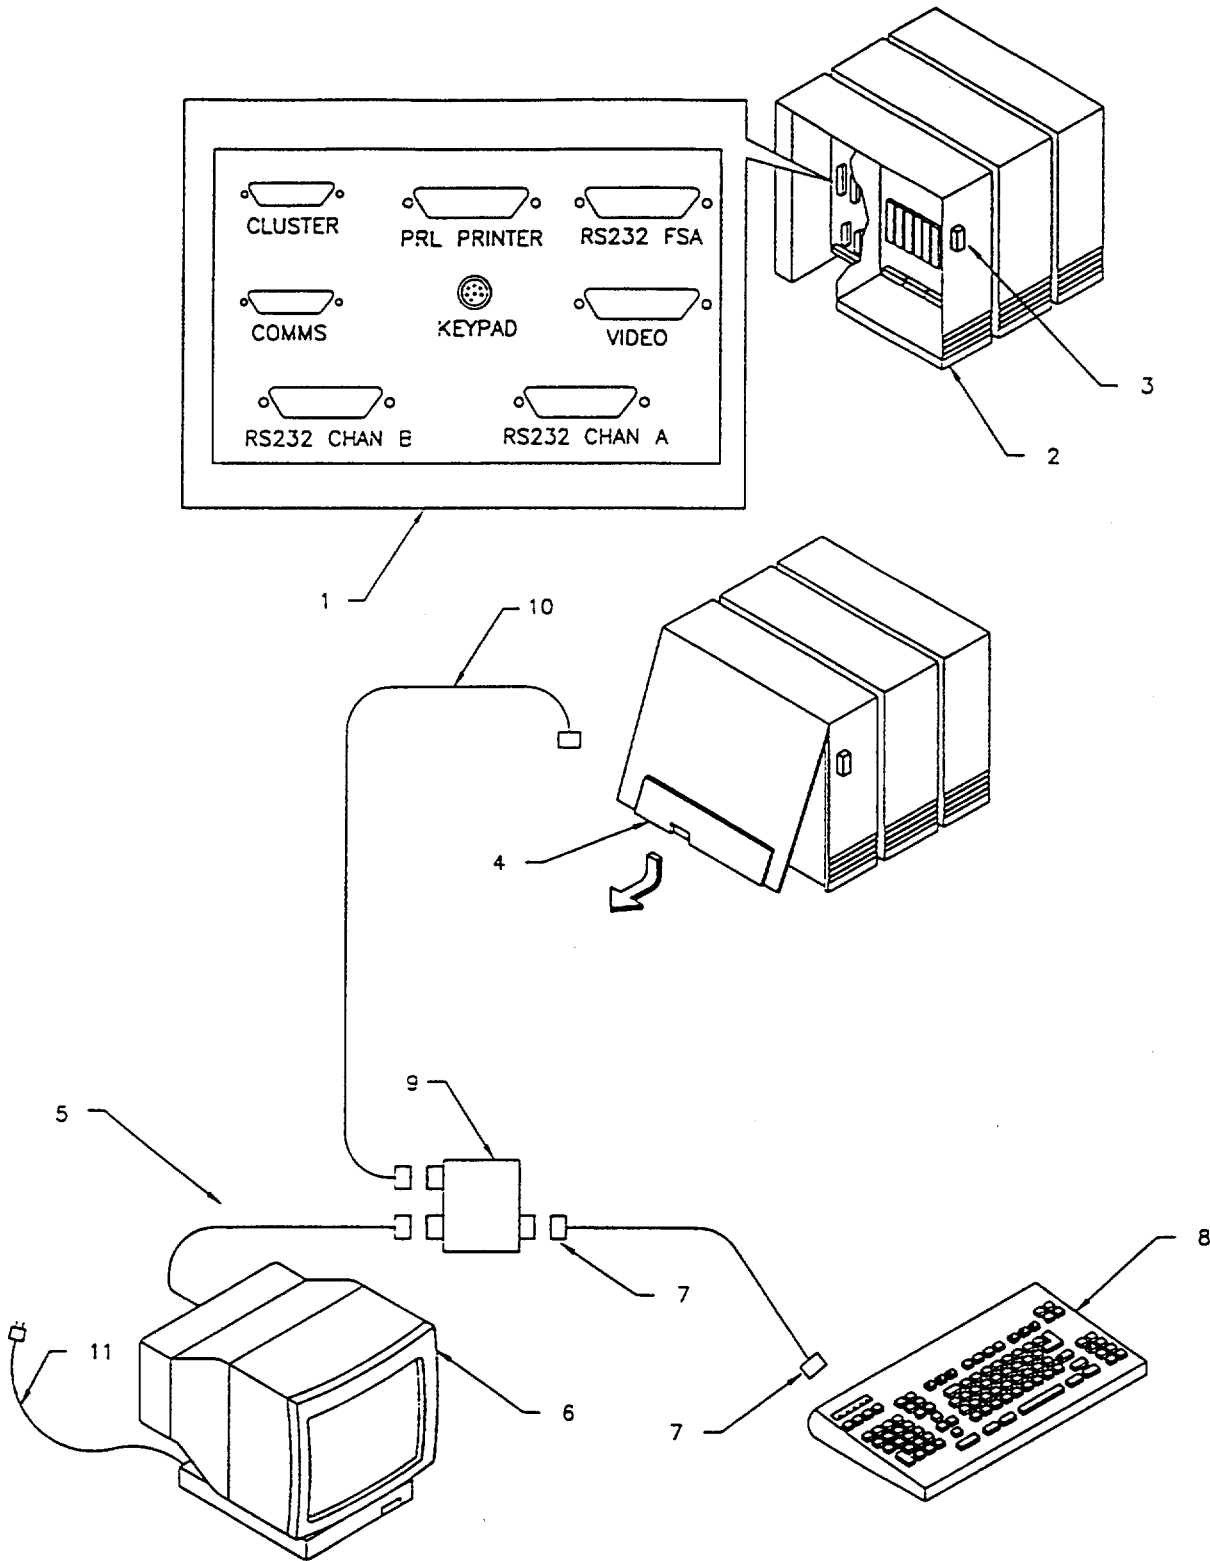

Figure 3-31. B38 Color Monitor, Video Graphics Adapter and Keyboard Assembly
**3-20. REPLACE COLOR MONITOR AND KEYBOARD ASSEMBLY. (Figure 3-31).**
- (1) Connect keyboard cable (7) to VGA adapter (9) by inserting connector into VGA adapter jack until it snaps into place.
- (2) Connect color monitor video cable (5) to VGA adapter (9).
- (3) Connect color monitor AC power cord (11) to power source.
- (4) Press color monitor power switch in to apply power to color monitor (6).
**3-21. REPLACE VIDEO GRAPHICS ADAPTER. (Figure 3-31)**